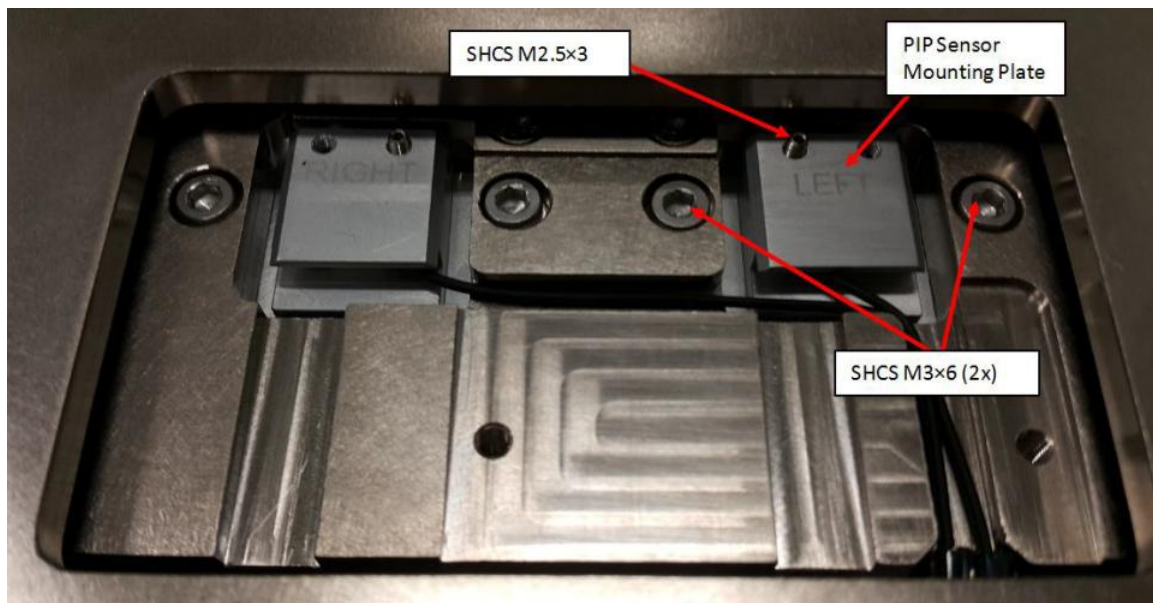
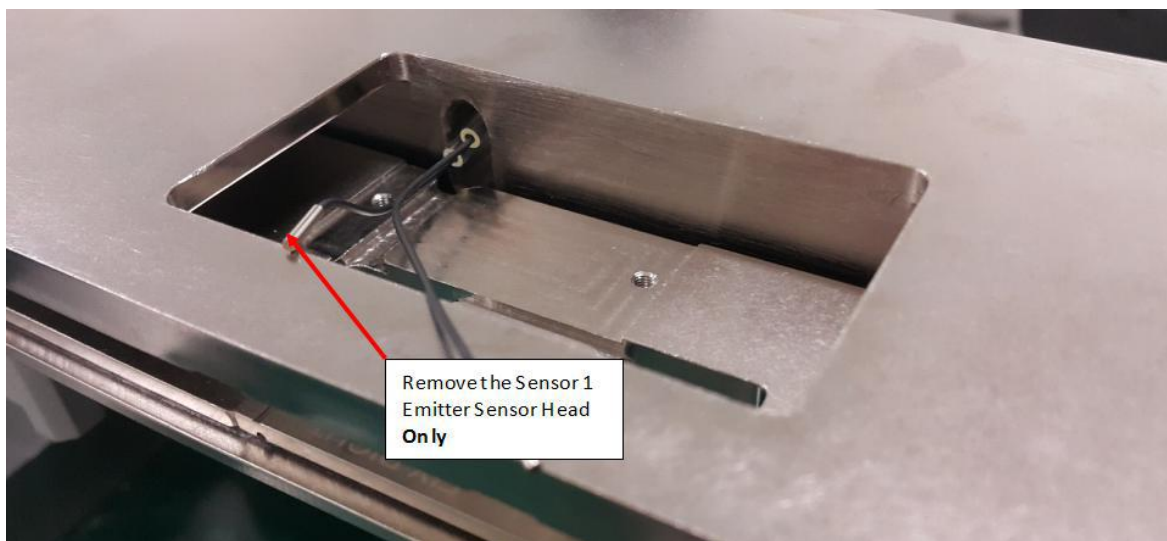

Figure 5 Sensor 1 Emitter
Figure 6 Sensor 1 Emitter (Sensor Head)
3. Open SHCS M3×6 (2x) from Sensor 1 Emitter as shown in Figure 5. Then loosen SHCS M2.5×3. Remove the Optical Sensor 1 Emitter Head from pip sensor mounting plate as shown in Figure 6